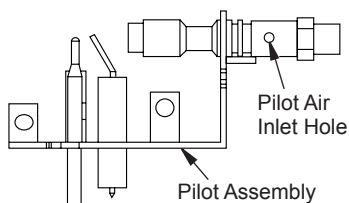

Figure 47 - Pilot Inlet Air Hole (Your pilot may vary from pilot shown)
2. Inspect burner, pilot and primary air inlet holes on orifice holder for dust and dirt (see *Figure 47*).